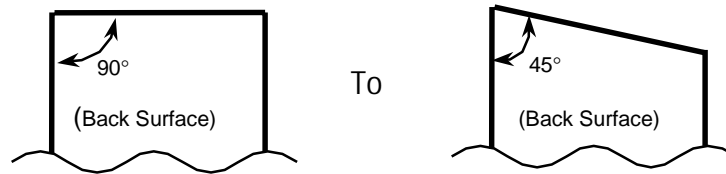

Figure 8-4 Paper Edge (Automatic Load)
- ③ Insert the edge of the paper straight into the insertion slot and feed the paper until it emerges from the paper cutter.
- ④ Pull on the edge of the paper and check to make sure it is properly set, then put the head down.
(2) Loading the paper automatically:
- ① Load paper with the thermal head in the down position.
- ② Cut the edge of paper in the manner shown in Figure 8-4.
NOTE: The paper sensor is located on the same side as the head-up lever. If the paper is cut in a direction opposite to that shown in Figure 8-4, then it will not detect the paper.